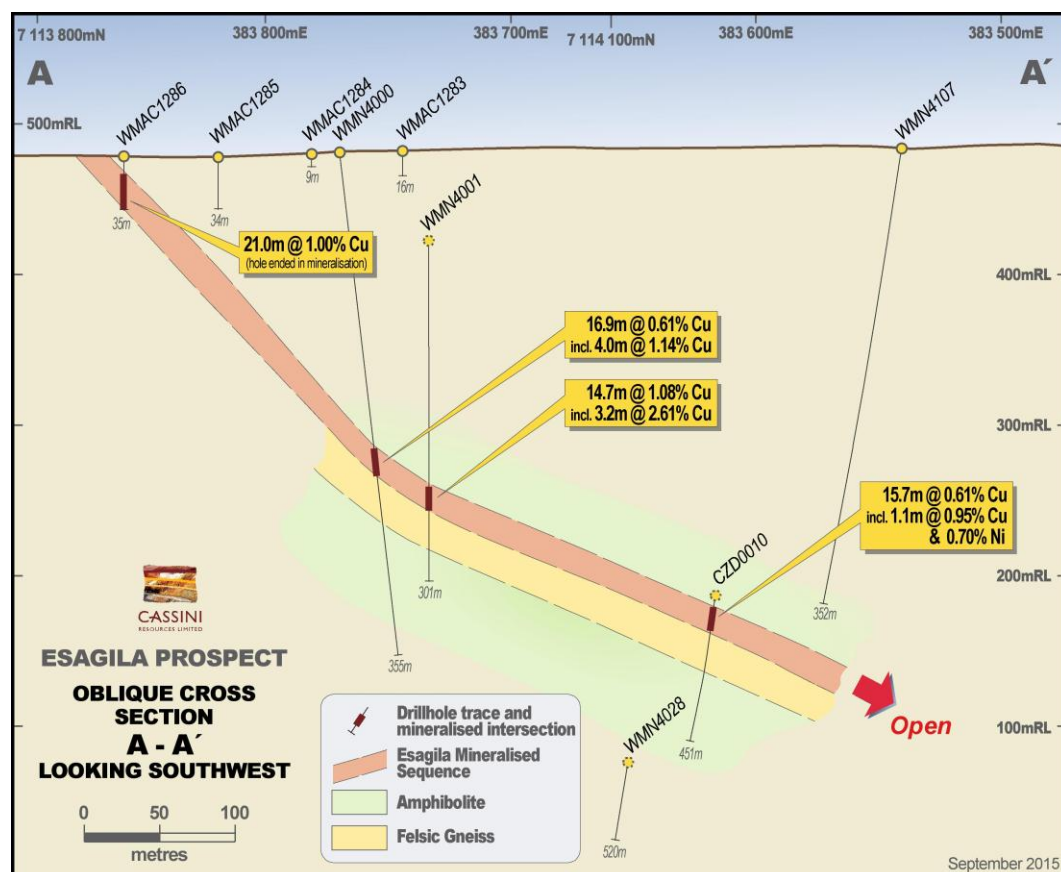

Figure 3. Long section of CZD0010 and adjacent drill holes
The Esagila Prospect is located only 4 km from the Succoth Prospect and are both interpreted as parts of the same mineralised intrusive complex that covers approx. 65km². Esagila was discovered in 2009 following surface electromagnetic (EM) surveys, but remains under-explored. CZD0010 targeted an untested EM conductor approximately 200m from historical hole WMN4001 which returned 14.7m @ 1.08% Cu (Figure 3).